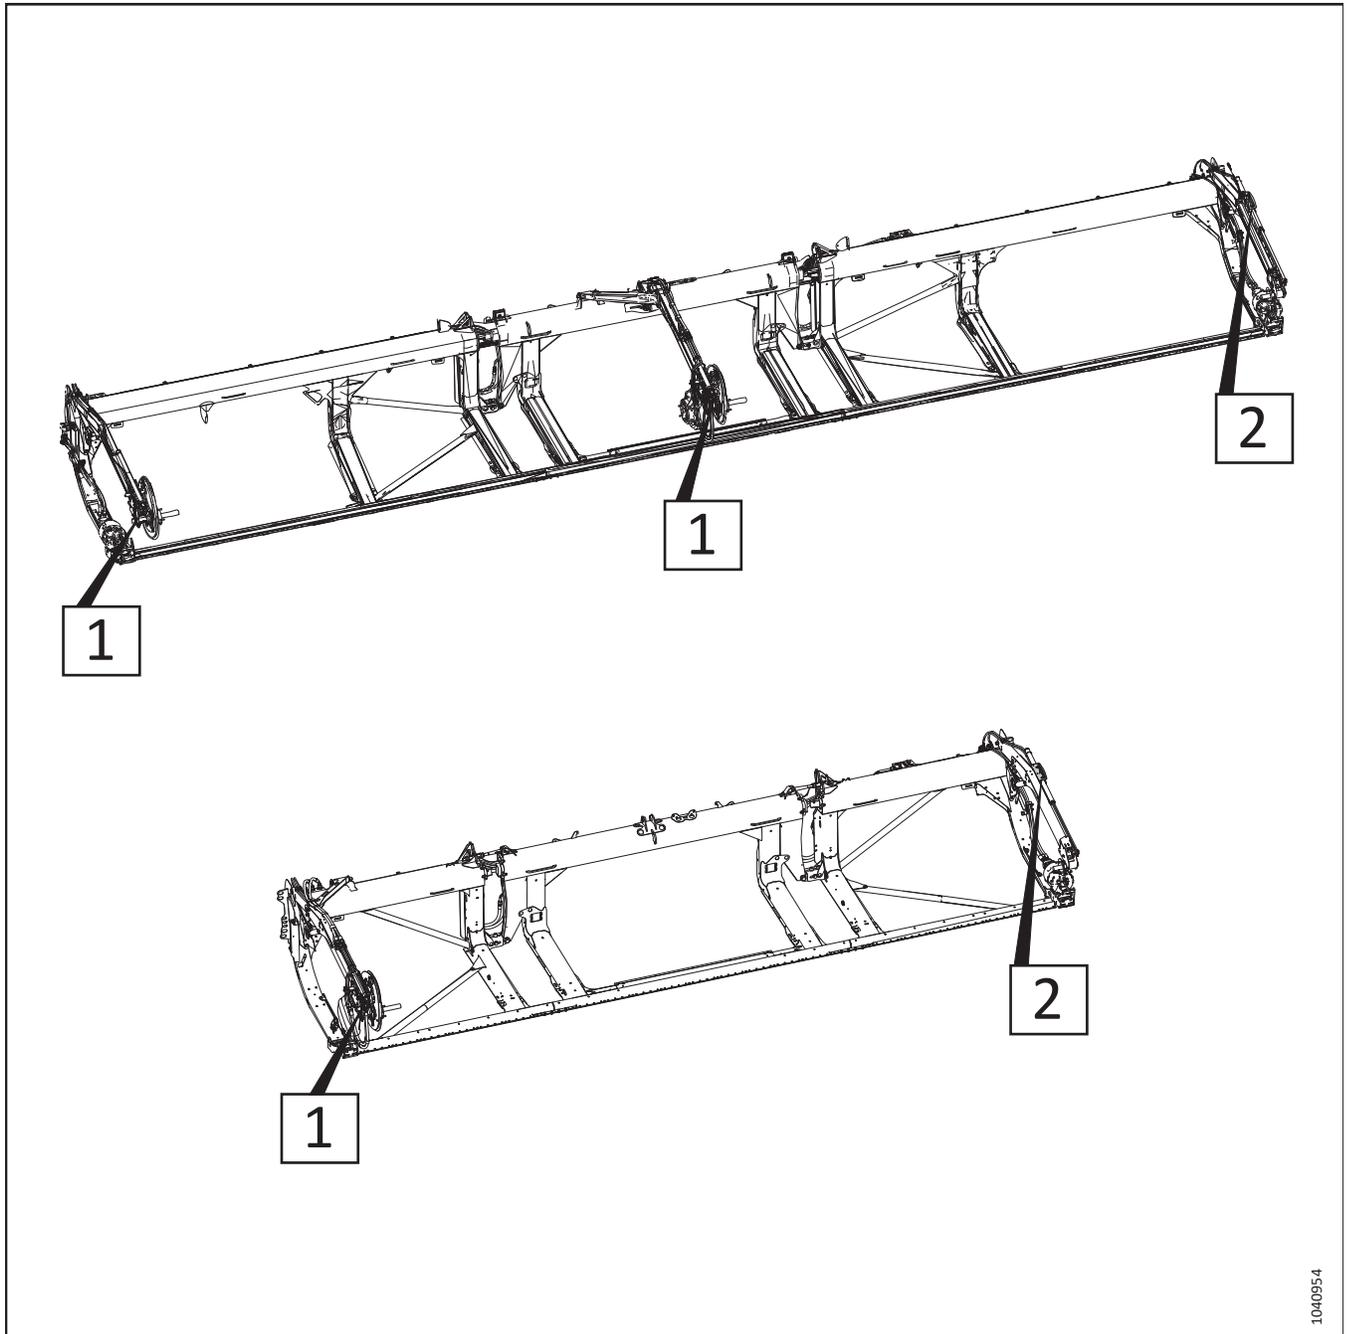

Figure 3.52: Adjustable Fore-Aft Cylinders – Procedure Reference Numbers
5. Refer to Figure 3.52, page 87 to determine the fore-aft cylinder adjustment procedures for your header type. The number on the illustration refers to one of the following procedures: